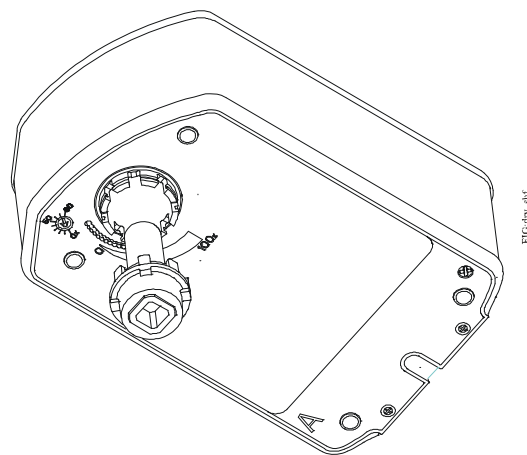

Figure 12: Inserting the drive shaft
4. Insert the drive shaft into Side A (Figure 12).